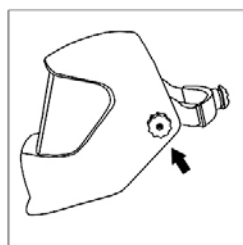

Fig. 3
4. Adjust the helmet to get the desired viewing angle. Once the angle is correct, tighten the two angle adjustment knobs connecting the headband to the helmet shell until snug. The helmet should still swing up, but it should not drift downward when in place for welding (Fig. 3).